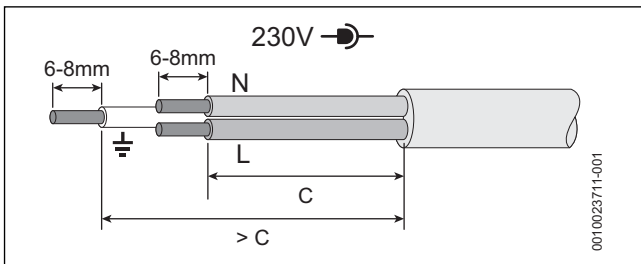

Fig. 56 Mains voltage (power cables) preparation
**Mains voltage (power cables), example → figure 56**
- ▶ Ensure the conductors (C) can reach the appropriate terminal connection and that the protective (earth) conductor is longer than the other wires.